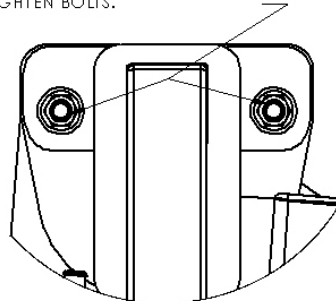

Figure 8. Seat Leveling
15. If the deck slope where the lift is mounted is causing the lift seat not to be level, the seat angle can be adjusted by loosening the bolts shown in **Figure 8**, adjusting the seat to level, and retightening the bolts.